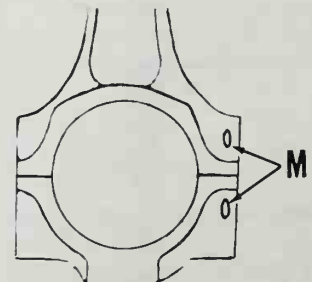

Fig. V1-15—Connecting rod marks (M) must be on same side as shown.
Marks (M—Fig. V1-15) cast in rod and cap must be on same side when installing cap on rod. Install piston and rod units so marks (M) are nearer intermediate shaft side of engine and arrow on piston crown points towards crankshaft pulley end. Tighten rod cap nuts to